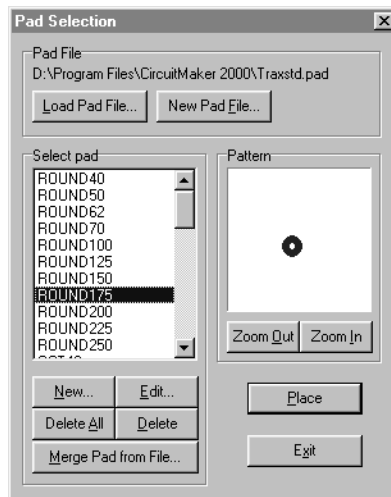

Figure 4.6. The Pad Selection dialog box lets you select pads and set up pad libraries.
- 1 Click the **Place Pad Tool** on the Tool Bar to display the dialog box in Figure 4.6.